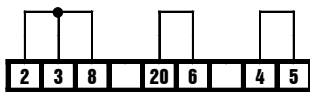

Fig. 5 Connections in the 3.496.8560 plug
- Check spindle zero position, see Fig. 5.